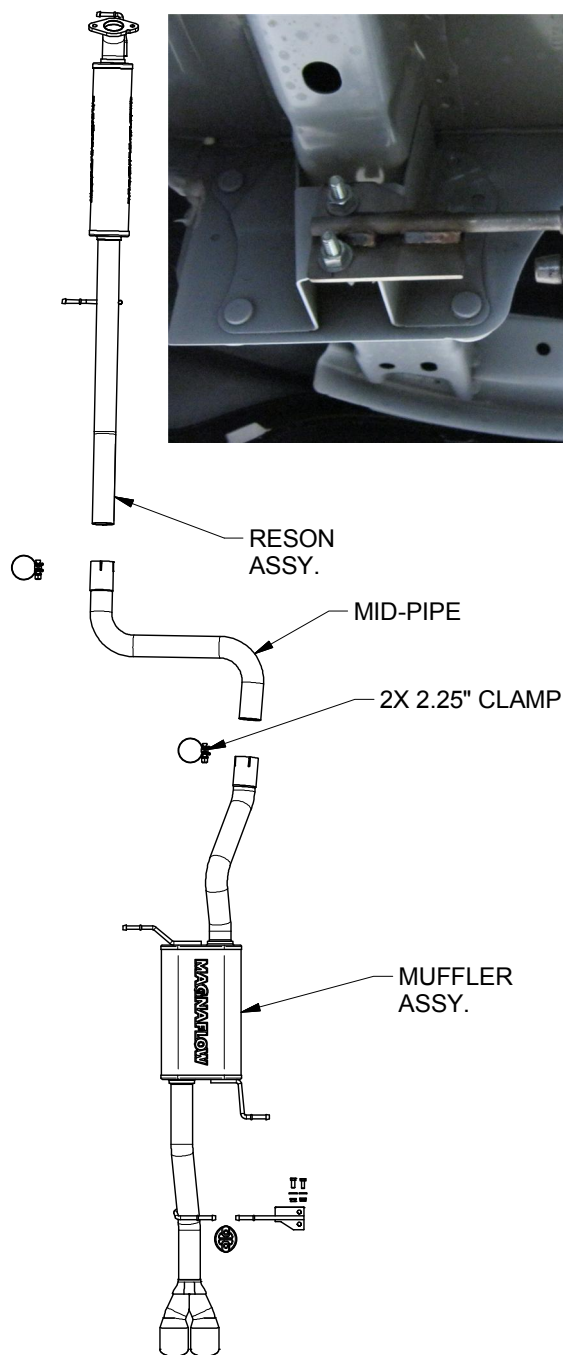

Fig. 1
Step 2: Begin installation of the new system by bolting the new Resonator Assembly to the catalytic converter using the OEM fasteners, and by fitting the welded hangers into the OEM rubber insulator. Leave all fasteners and clamps loose for final adjustment of the complete system. Install the new Mid-Pipe by fastening it to the Resonator Assembly using a supplied 2.25" clamp. Install the Muffler Assembly in the same fashion after mounting the supplied hanger bracket, fasteners and rubber insulator as shown in Fig.1